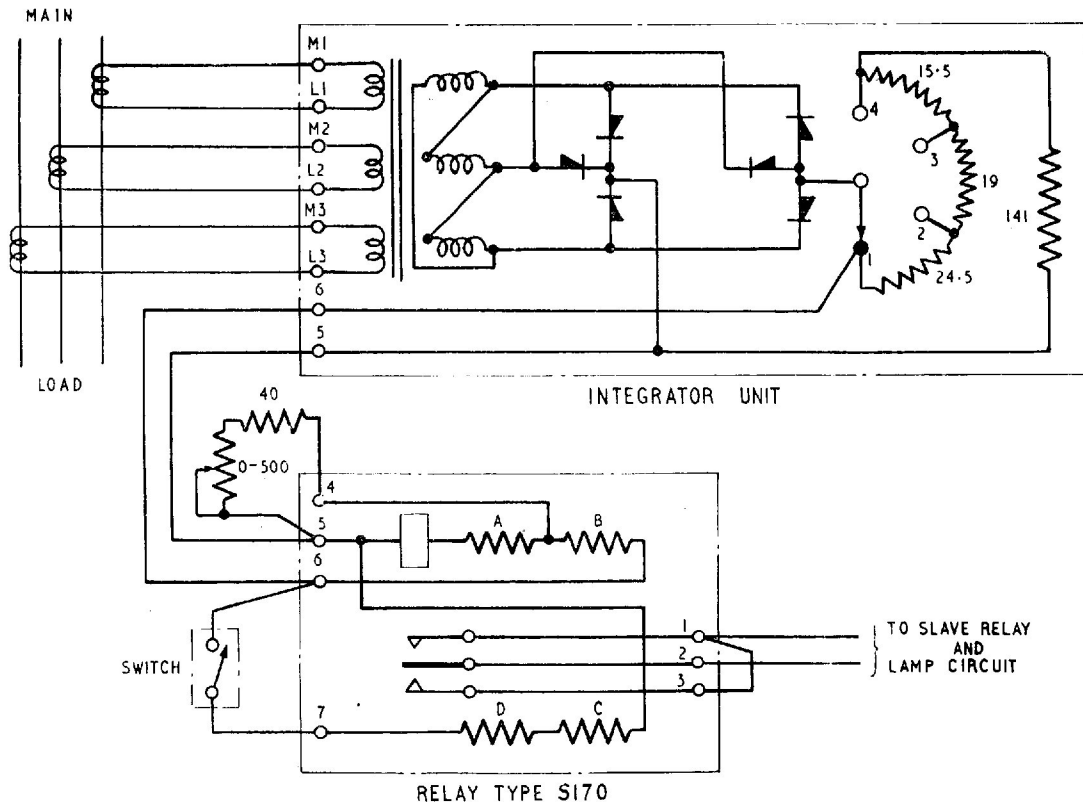

Fig. 5. Circuit diagram of system
7. The relay incorporates four resistances, A, B, C and D (*fig. 5*). Resistances A and B are connected in series with the relay coil. Resistances C and D are brought out to terminals and can be shunted across the relay coil and resistances A and B by means of an external switch or link. For final adjustment of the relay a resistance poten-
15. Connect the unit as shown in the circuit (*fig. 5*) and open the switch or link between terminals 6 and 7.